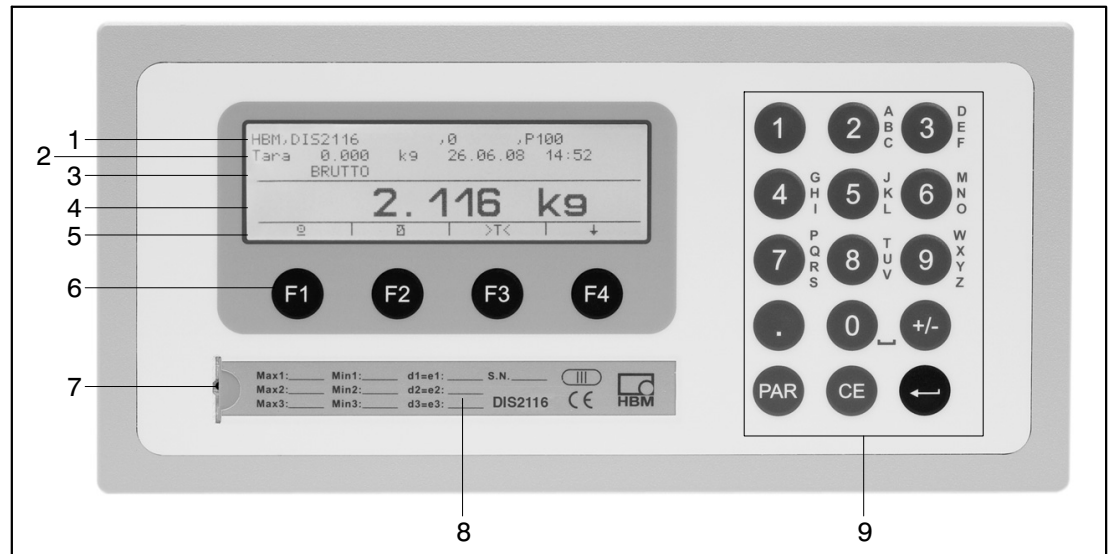

Fig. 6.1: DIS2116 front panel
- Hidden pushbutton for access to the calibration menu (see Fig. 6.1)